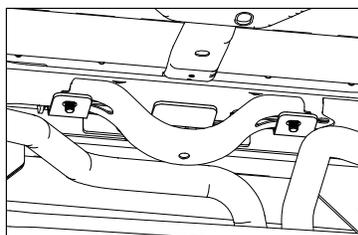
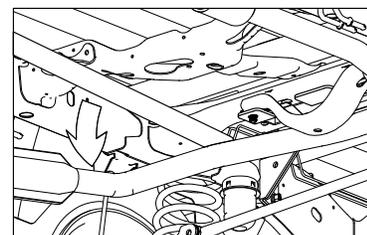

FIGURE F4: View under bed looking from floor to area above axle.
FIGURE F5: View under bed looking from floor to area above driver side exhaust pipe.
3. **Install the rear brace.** Position the two large slots over the 5/8" bolts of the bolt guides, see Figure F4. Attach the rear brace to the center section and the rear cross member with two 1/2" x 1-1/2" long bolts, lock washers and flat washers. Hand tighten only at this time. Using the 5/8" flange nuts, attach the rear brace to the frame cross member with the bolt guides. If the truck is equipped with dual exhaust, it may be helpful to pry the exhaust downward while installing the flange nut on the driver side bolt guide, see Figure F5.